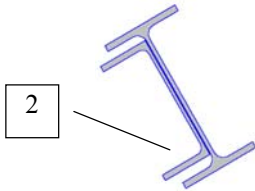

Fig. 50. The section after the first channel has been set
- ↵ press the **Add** button (Fig. 50). Once the channel has been set a message about the intersection with the I-section is issued (ref. Intersection of Section Elements for details). In this case, this is because the channel overlaps the curved parts of the I-section web. The intersection can be ignored in the example.